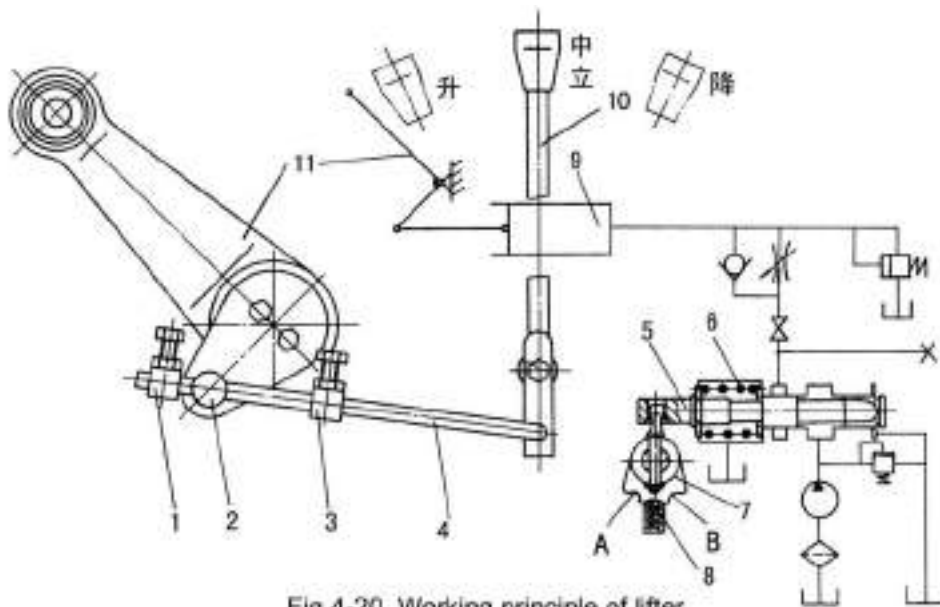

Fig.4-20 Working principle of lifter
Fig.4-20 is a working principle diagram of position adjusting of the lifter (with simple direction exchange valve and high adjustable performance). While pulling the operation handle (10) to lowering position, position locating steel ball (8) falls into lowering the position locating slot B on position locating block (7), meanwhile main control valve (5) moves right to the lower position. The oil in the cylinder flows back into oil tank through main control valve (5), and the implement begins to fall down. With the implement falling gradually, stop pin (2) fixed on the stop plate of the lift shaft and the lift shaft together rotate counterclockwise, and slip along return push rod (4); after they slip to contact the lowering position limiting stop block (3) fixed on the return push rod, they bring the return push rod (4) move right together; at the same time turn the operation handle until position locating steel ball (8) is pushed out of the position locating slot B. In such case, under the action of
While raising the implement, push operation handle (10) to lifting position and then position locating steel ball falls into position locating slot A (Fig.4-20), main control valve (5) moves left to lifting position. The implement begins to rise; with the implement rising gradually, meanwhile, return stop pin (2) rotates around the lift shaft clockwise; when the stop pin slips to contact lifting return stop block (1), drive return push rod (4) to move left, and at the same time rotates operation handle (10) until pull the locating steel ball (8) out of its locating slot. In such case, under the action of the tension of return spring (6), operation handle (10) and main control valve (5) jump to neutral position at the same time. And the oil pump stops supplying oil to the cylinder, the implement stops rising. The raising height of the implement depends on the fixed position of the lift return stop block (1) on the return push